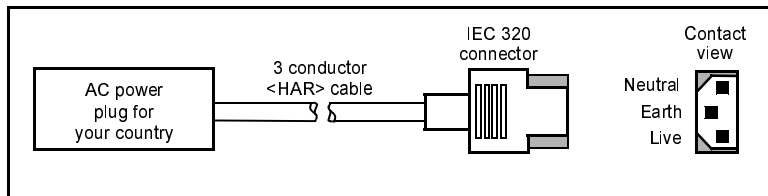

Figure 34
- The chassis ground (earth) **MUST** be connected to assure safety and reduce electromagnetic interference. The ground connection is handled by the third wire (earth) in the power cord (see Figure 34).